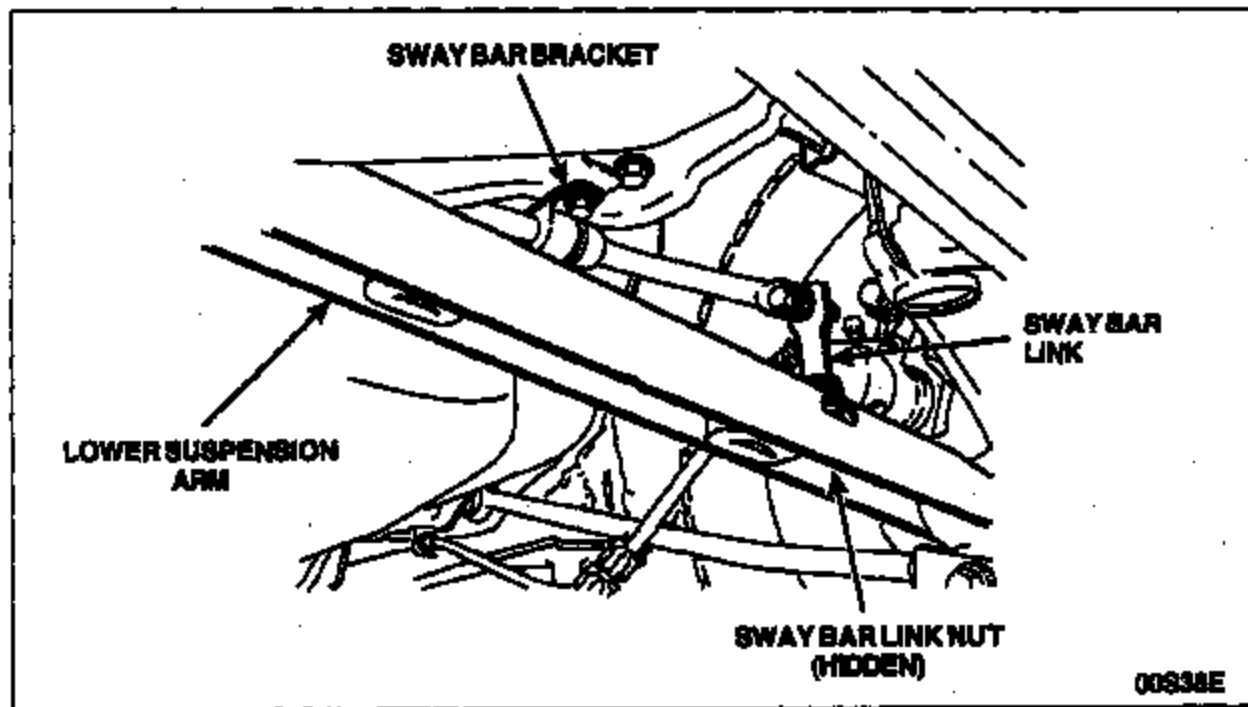

FIGURE 5
8. Disconnect the rear sway bar links from the lower suspension arms. Then remove the sway bar brackets and remove the bar from the vehicle. See Figure 5.